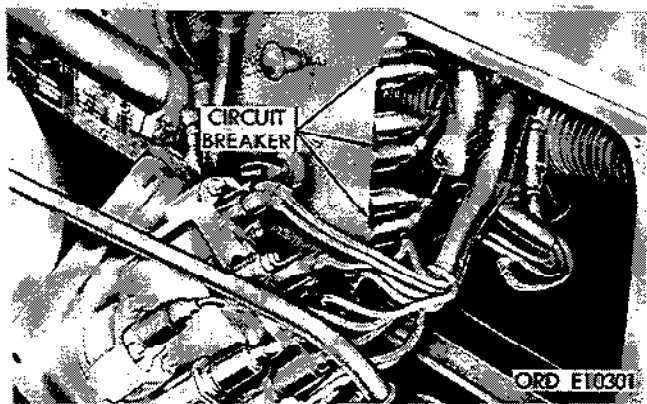

Figure 2-237. Separate cable connectors from circuit breakers.
(23) Separate cable connectors from three circuit breakers (fig. 2-237).